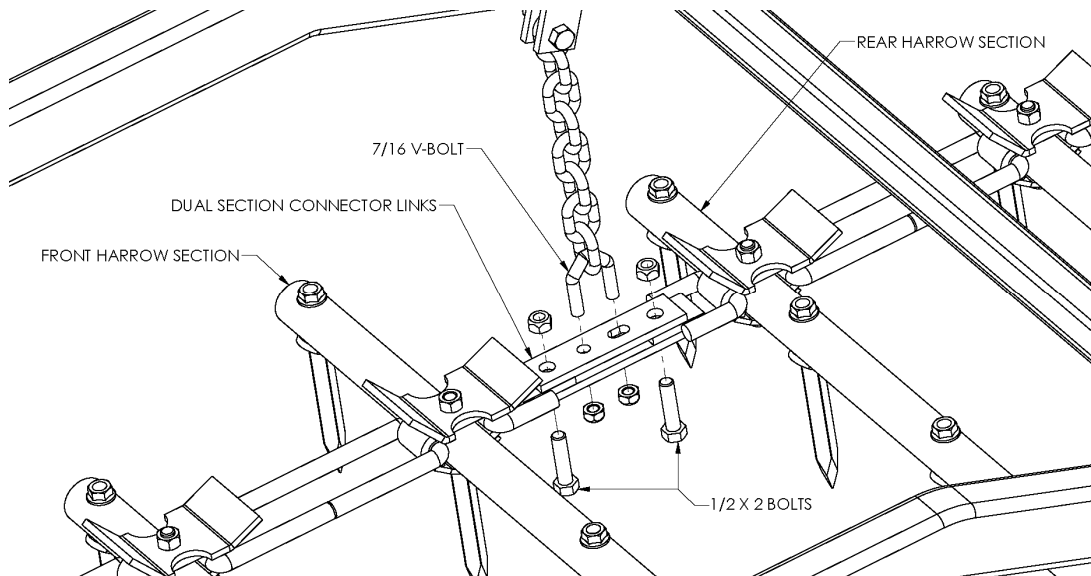

Figure 21
2. Bolt the front and rear harrow sections together using two 5/16" x 1 1/2" x 6" dual section connector links at each pull tab. Refer to Figure 21. Use two 1/2" x 2" bolts and locking hex nuts. Do *not* tighten yet.
2. Bolt the lift chains to the bottom of the rear lift tabs of the front harrow sections. Refer to Figure 21. Use 1/2" x 1 1/2" bolts, flat washers, and locking hex nuts.